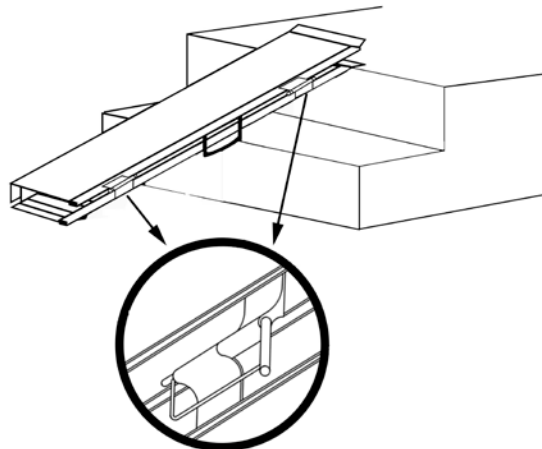

FIGURE 2
5. Place ramp on landing in the folded position, making sure that the top lip transition plate (labeled TOP) is resting securely on the landing, see FIGURE 2.